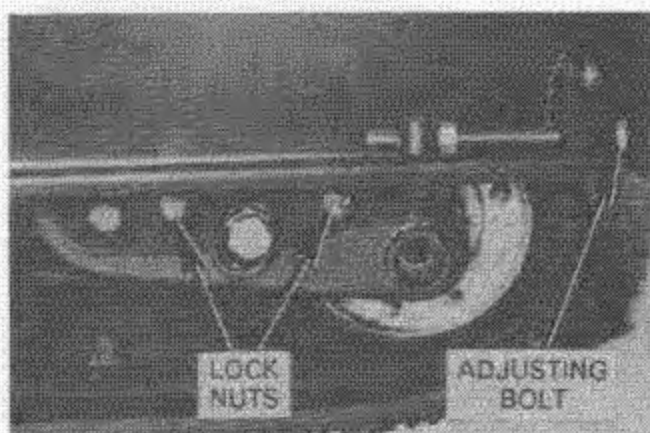

Fig. 39 — Track Tension Adjustment
3. Loosen locknuts and turn adjusting bolts to obtain $3/4$ " clearance between bogie wheels and track. See Figs. 39 and 40. Tighten lock nuts.